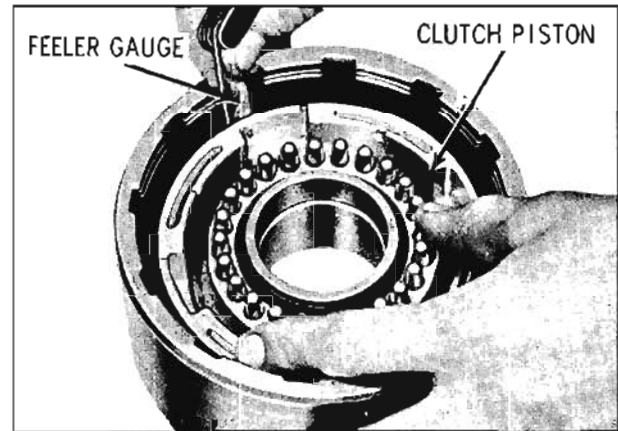

Fig. 6-363 Installing Clutch Piston
5. Install forward clutch piston into clutch drum using a .005" feeler gauge to start lip of seal into bore. (Fig. 6-363)